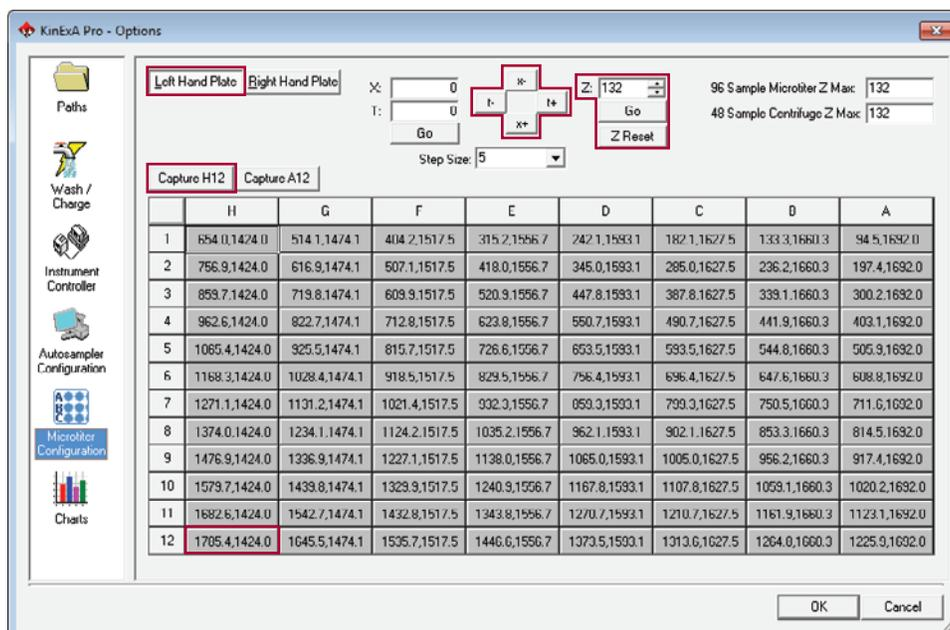

Figure 4. Microtiter configuration screen.
- Select **Microtiter Configuration** below the Autosampler configuration option. Once microtiter configuration is selected, the left hand plate calibration screen will appear (**Figure 4**).
- Drive the sipper tube to position H12 by selecting the gray button in column H, row 12. (**Figure 4**) Drive the sipper tube down by entering **132** in the **Z** parameter and select **Go**.
- 1) Adjust the right arc or left arc by selecting the **t-** button or **t+** button (**Figure 4**).
- 2) Adjust the forward or backward movement of the sipper tube by selecting the **x+** button or **x-** button (**Figure 4**).
- Once the sipper tube is aligned in the H12 position, select **Capture H12** (**Figure 4**).
Note: If the Z parameter is not cleared, the sipper tube will drop to this setting every time a new position is selected. To clear this setting, select the **Z Reset** button (**Figure 4**).
- Next move the sipper tube to the H1 position by selecting the gray button in column H, row 1. Drive the sipper tube down by entering the appropriate **Z parameter** and select **Go** (**Figure 4**).